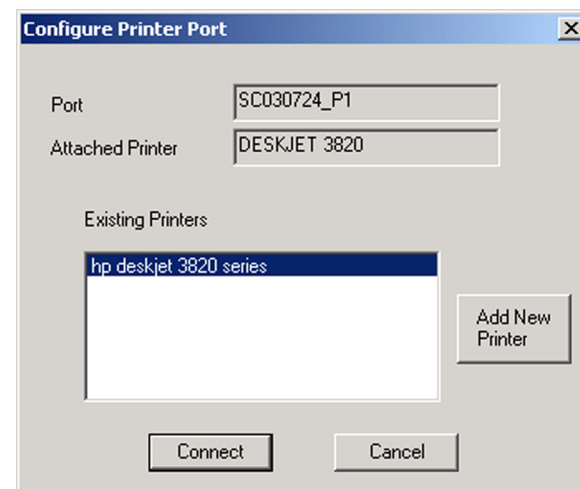

Figure 5-10: Configure Printer Port
11. The Configure Printer Port screen will appear, as shown in Figure 5-10. Your installed printer will appear in the field. Click the **Connect** button to connect the printer for configuration. To add another printer, click the **Add New Printer** button.